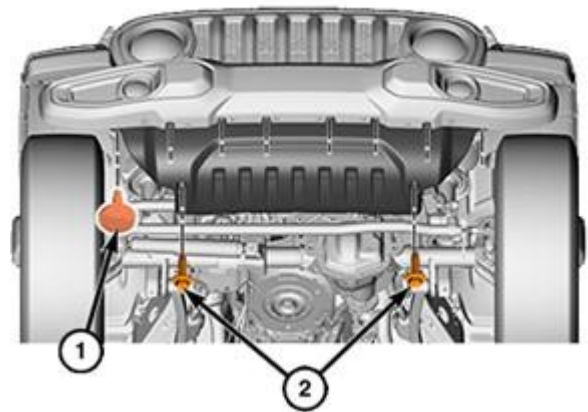

Figure 15 – Air Dam Fasteners
3. Remove the eight push pin fasteners from the front air dam (1) (Figure 15).
4. Remove the bolts (2) (Figure 15).